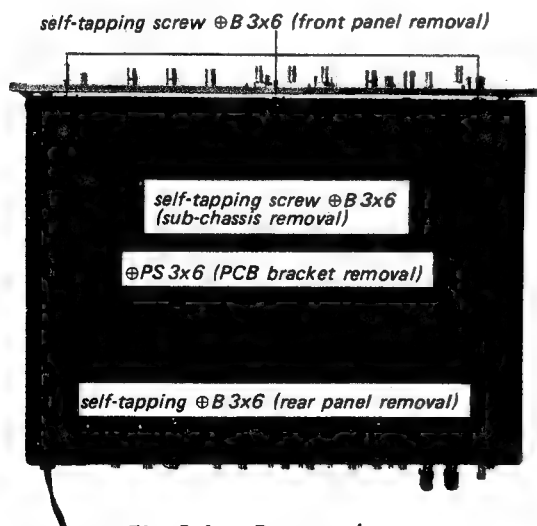
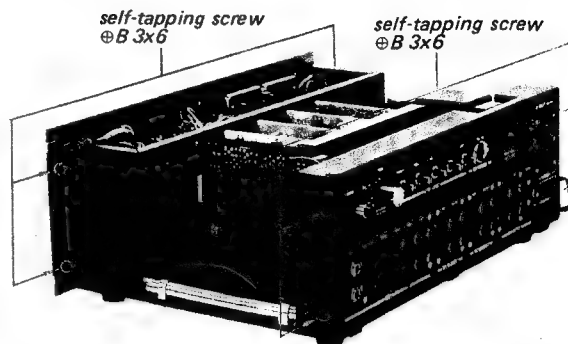

Fig. 2-4. Bottom view
Fig. 2-5. Front subchassis and rear panel removal
5. Remove the three self-tapping screws (\oplus B 3x6) at the front bottom of the chassis as shown in Fig. 2-4. This frees the front panel.
2. Remove the two self-tapping screws (⊕ B 3x6) at each side of the chassis (see Fig. 2-5) and two self-tapping screws (⊕ B 3x6) at the front bottom of the chassis as shown in Fig. 2-4. This frees front subchassis.
2. Remove the two screws (\oplus PS 3x6) securing the PCB mounting bracket to the chassis from the bottom as shown in Fig. 2-4.
2. Remove the two self-tapping screws (\oplus B 3x6) at each side of the rear panel as shown in Fig. 2-5.
3. Remove the two self-tapping screws (\oplus B 3x6) at rear edge of the bottom as shown in Fig. 2-4. This frees the rear panel.